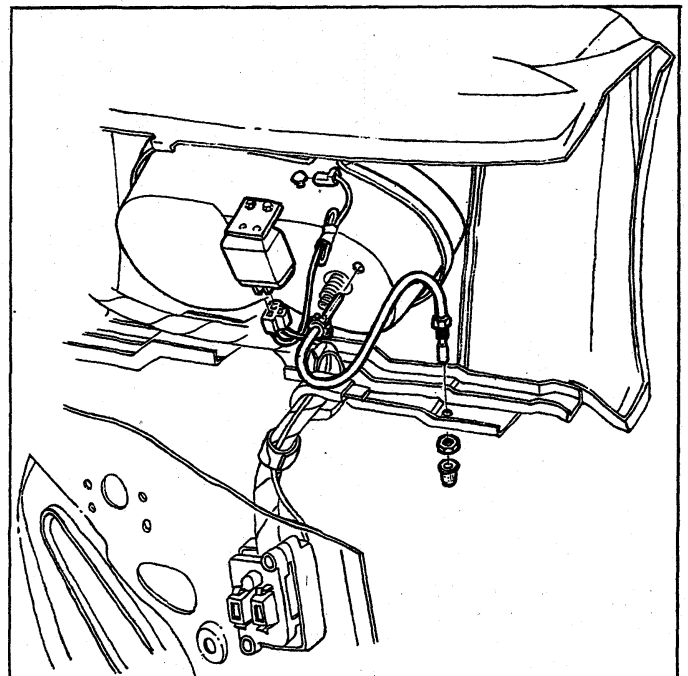

Fig. 51 - Speed Warning Device
5. Reaching behind cluster assembly, disconnect speedometer cable, speed warning device (if so equipped - Fig. 51) and chassis harness connector at rear of panel.